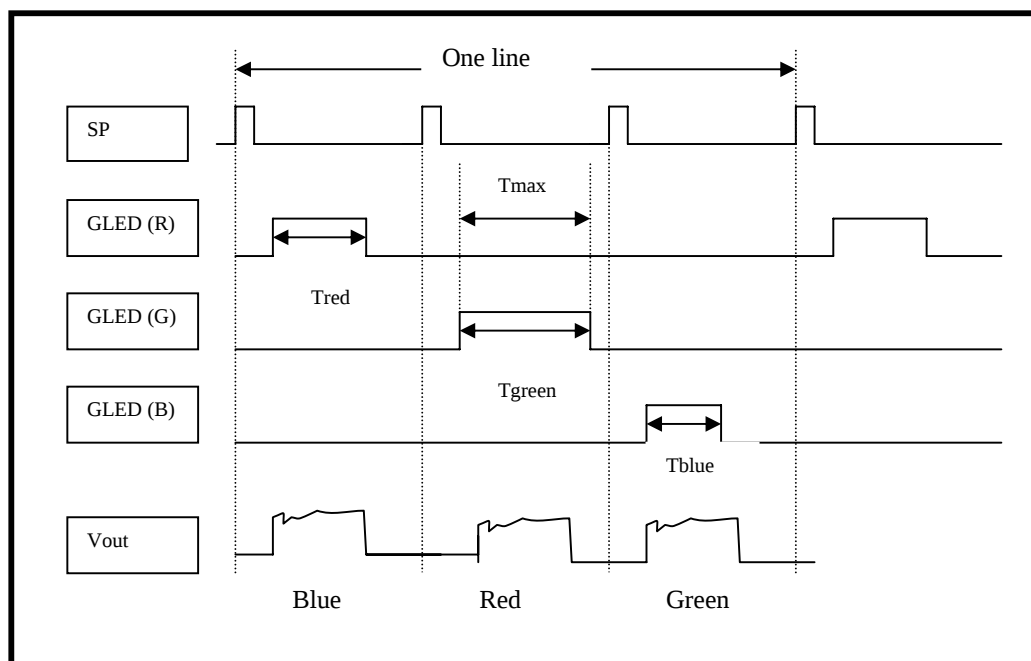

Figure 6. Timing diagram of the CIS module for color mode of operation.
The CIS module used for the color mode of operation is shown in figure 6. In this mode of operation, three different color light sources are pulsed. The following instruction is used to set the output signal level for three different color light sources.
- 3.1.5 Reduce the pulse width of the other two LED's until the output signal is the same as the reference voltage. For example, the green LED pulse is set to T_{max} and the red and blue LED pulses are reduced, as shown in figure 6.